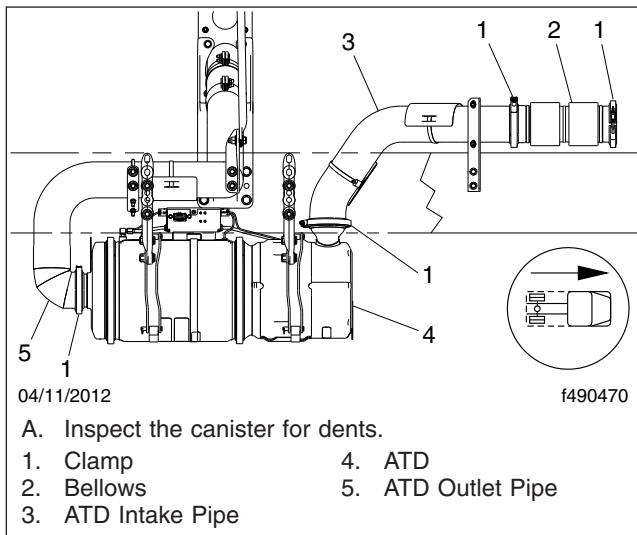

Fig. 4, Typical Aftertreatment Device (ADR2011)
IMPORTANT: The Australian Department of Infrastructure and Transportation regulations for 2011 (ADR2011) require lower exhaust emissions, thus requiring new exhaust system components. See Fig. 4. In particular the aftertreatment device (ATD), which is part of the aftertreatment system (ATS), requires special attention during regularly scheduled maintenance inspections. If any discrepancies are discovered, refer to the engine manufacturer's service literature for repair instructions.
7. Check the DPF exterior surface for dents or other damage. See Item A of Fig. 4. A dent over 3 inches (76 mm) in diameter and 1/4-inch (6-